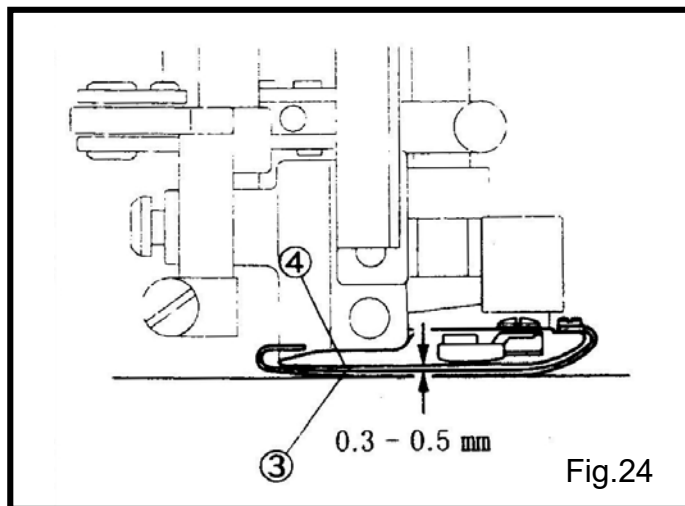

Fig.24
(3) 在壓腳④和壓腳彈片③之間調出 0.3-0.5mm 的間隙。(Fig.24)
(4) 把螺母①鎖回去。
(3) Adjust the clearance between the bottom④ of the presser foot and the presser foot spring plate③ to 0.3-0.5 mm.(Fig.24)
(4) Tighten the lock nut① securely.